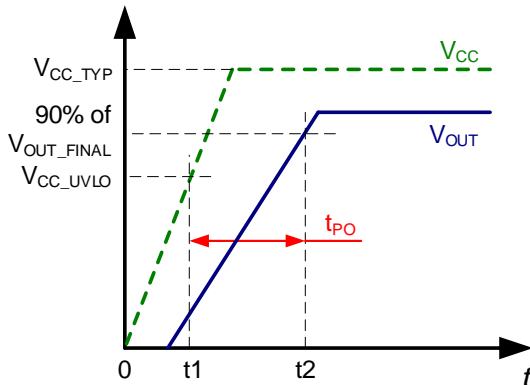

Figure 5: Power-On Time (t_{PO})
2. $t2$: V_{OUT} settles to 90% of its final value under an applied primary current (see Figure 5).